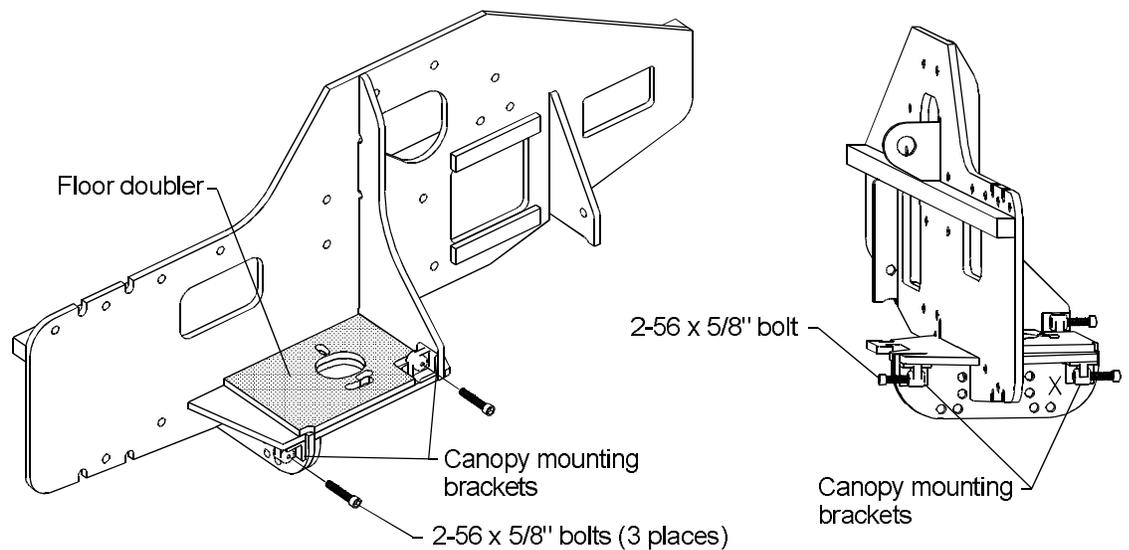

Figure 5-6.
- ❑ 18. Cover the entire surface of the floor doubler with thick CA glue, and glue it to the **TOP** of the floor as shown in Fig. 5-6.